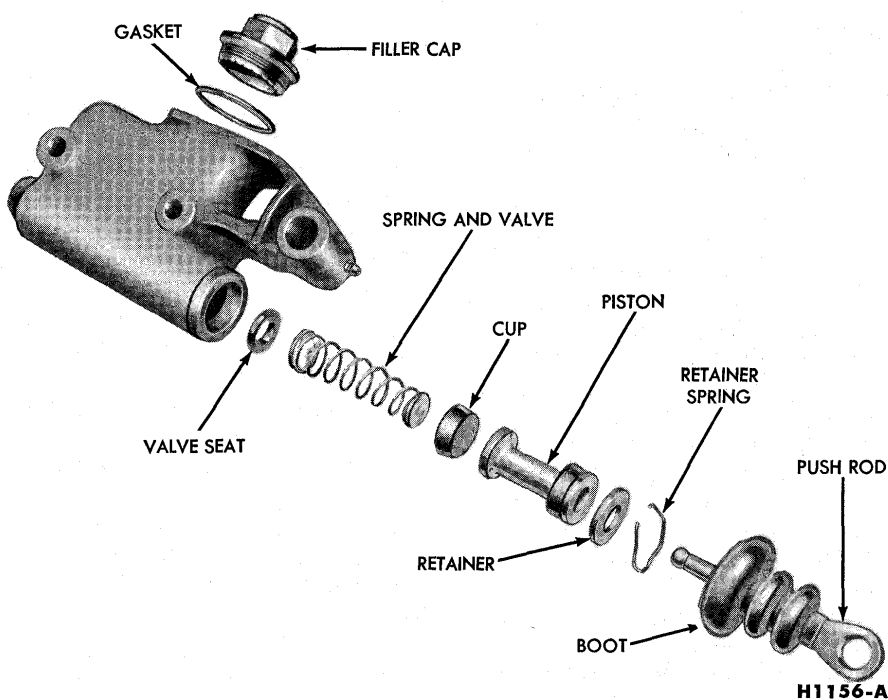

FIG. 14—Brake Master Cylinder—Disassembled
(Fig. 14), and pour out any remaining fluid.
3. Insert the valve seat, spring and valve assembly, and cup into the cylinder bore (Fig. 14).